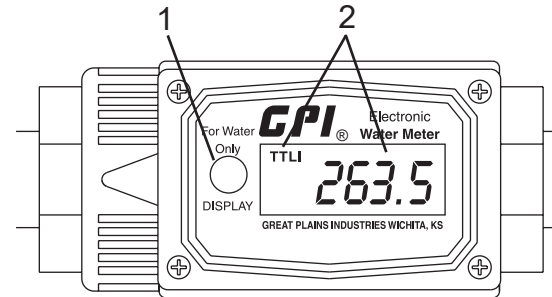

Figure 132
1. Activate the display by briefly pressing the DISPLAY button (Figure 132, Item 1).
2. Briefly press the DISPLAY button (Figure 132, Item 1) to change the total displayed - “Batch” mode (displayed as “TTL1”) or “Cumulative” mode (displayed as “TTL2”) (Figure 132, Item 2).
3. To reset the “Batch” total display, press and hold the DISPLAY button (Figure 132, Item 1) for three seconds.